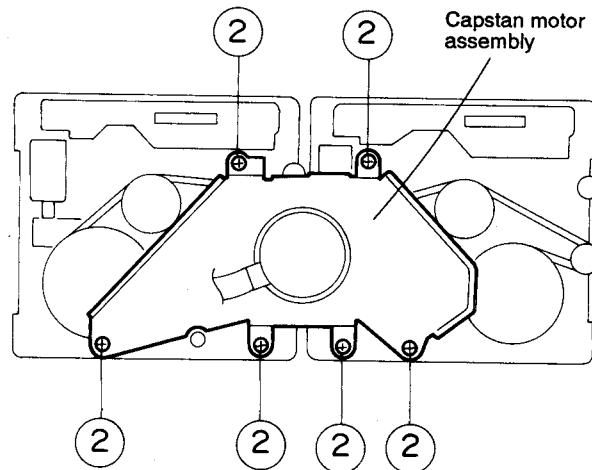

**Fig.5-27**
**■ Removing the Head Amp. & Mechanism Control P.C. Board (See Fig. 5-27)**
2. After turning over the cassette mechanism assembly, remove the five screws ① retaining the head amp. & mechanism control P.C. board.